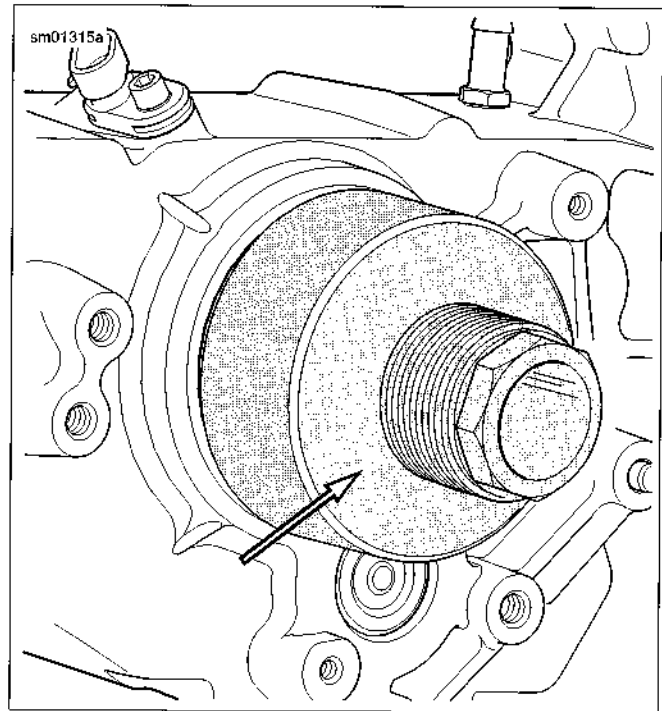

Figure 5-57. Place Installer over Adapter
6. See Figure 5-57. Slide INSTALLER (Part No. HD-47856-1) over adapter until cupped end of installer is flat against seal.